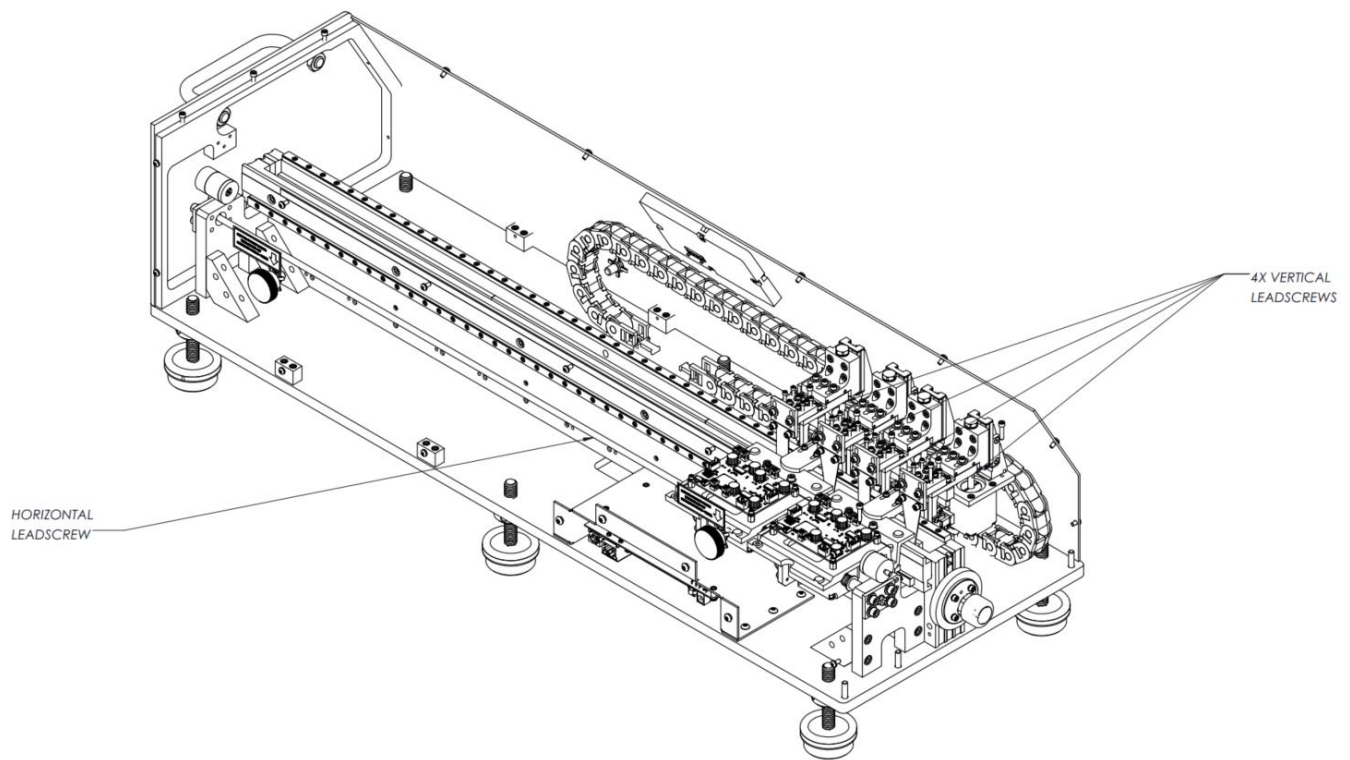

Figure 2. Lubrication Points (one side panel hidden to show carriage detail)
4. Remove the tuner's back and top cover panels, in that order, by removing eight (8) screws (XT983ML01, longer tuners will have more screws) around the edges of the back panel and six (6) screws on the top panel. DO NOT remove the side or front panels.
5. Apply a small amount of lubricant to the vertical and horizontal lead screws shown on Figure 2. The amount of lubricant to be applied should be enough to cover the entire surface of the lead screws on every thread.